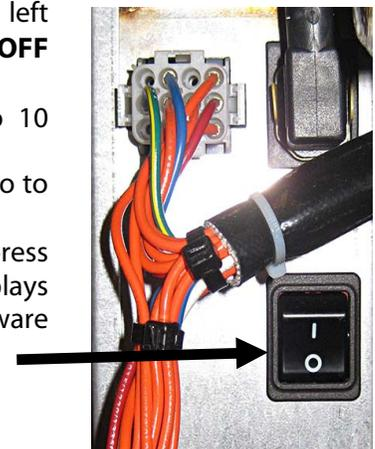

Figure 33
25. Cycle the fryer control power using the switch on the front of the left contactor box (see Figure 33). **ENSURE THE SWITCH IS TURNED OFF FOR 30 SECONDS.**